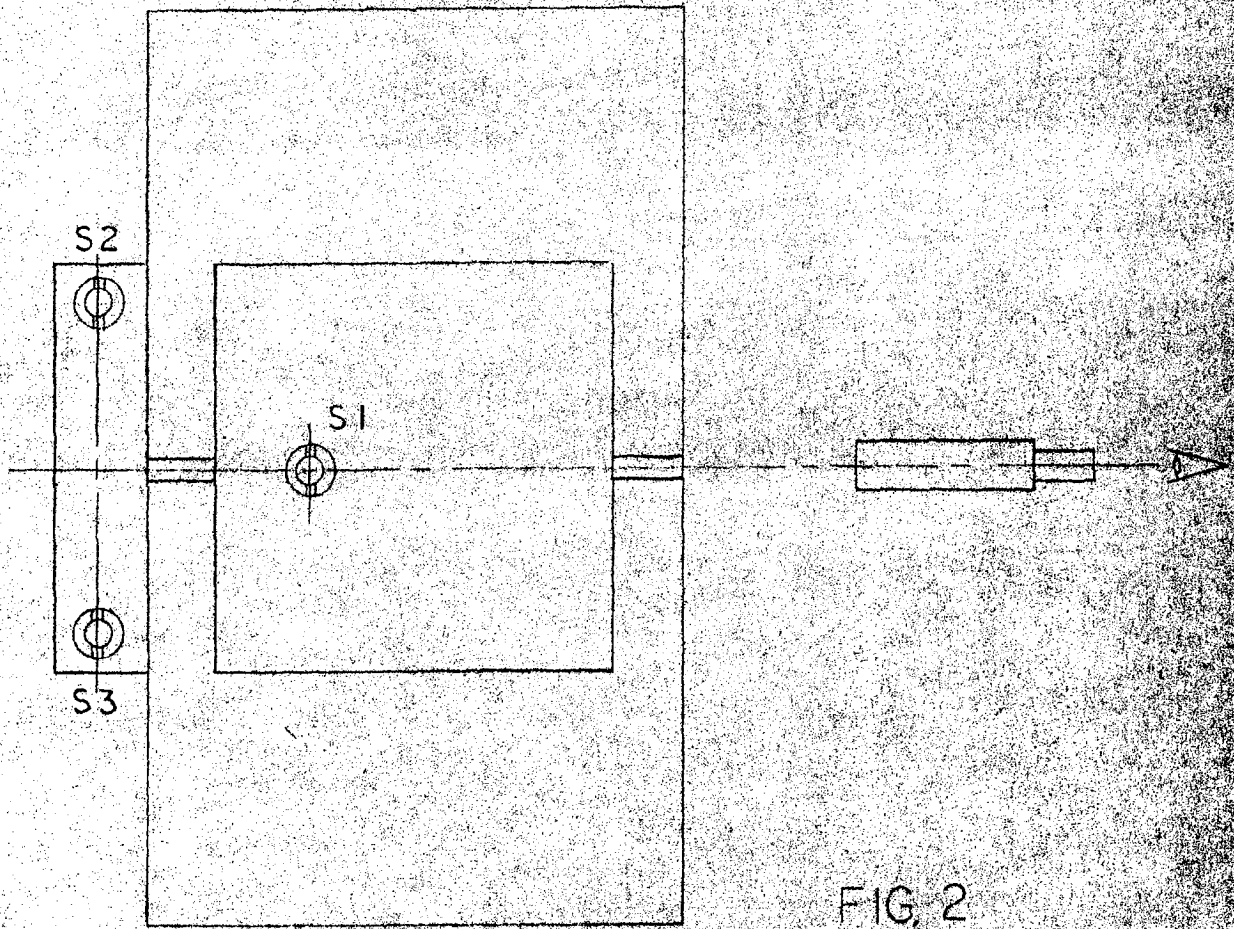

FIG. 2
11. Since access to the center jacking screw (S1, Figure 2) on mirror M1 is obstructed by a key, it would be best to make adjustments requiring use of this screw first. This screw is effective in reducing errors with respect to a horizontal plane if the K-rotator is positioned as suggested in step 10.